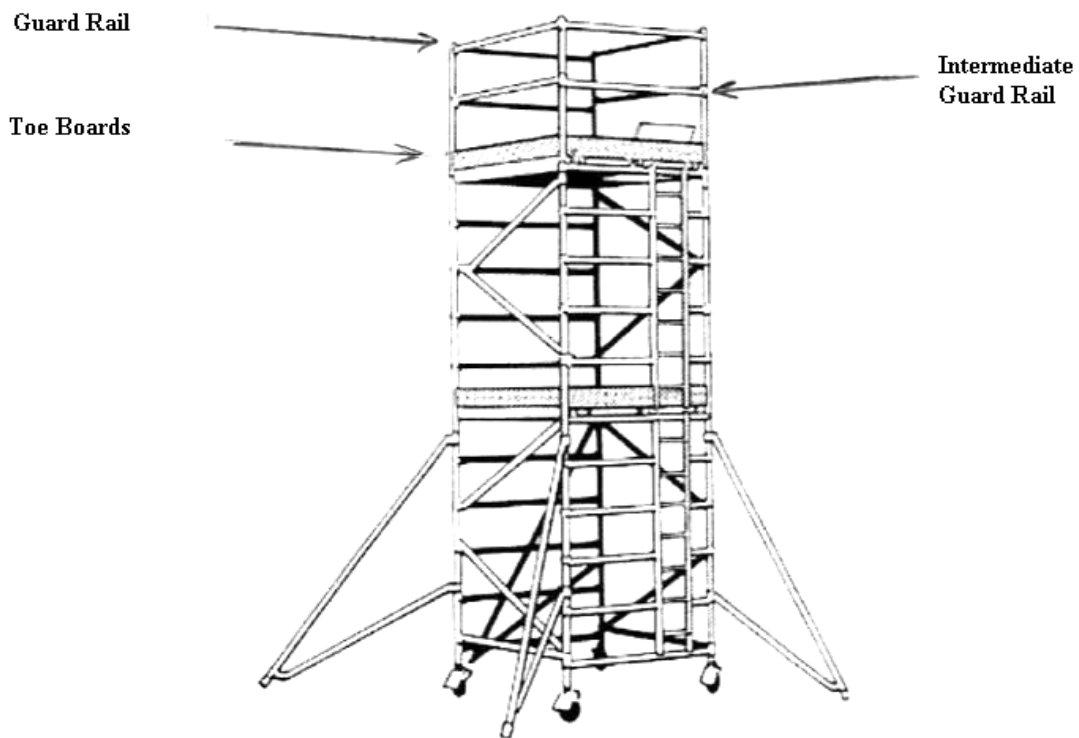

FIGURE 2
- the frame has an appropriate designed build-in ladder (Figure 2). These should be climbed from the inside;
Provide suitable edge protection on platforms where a person could fall more than 2 metres. Guard rails should be at least 910mm high and toe boards at least 150mm high. An intermediate guard rail or suitable alternative should be provided so the unprotected gap does not exceed 470mm (see Figure 2).